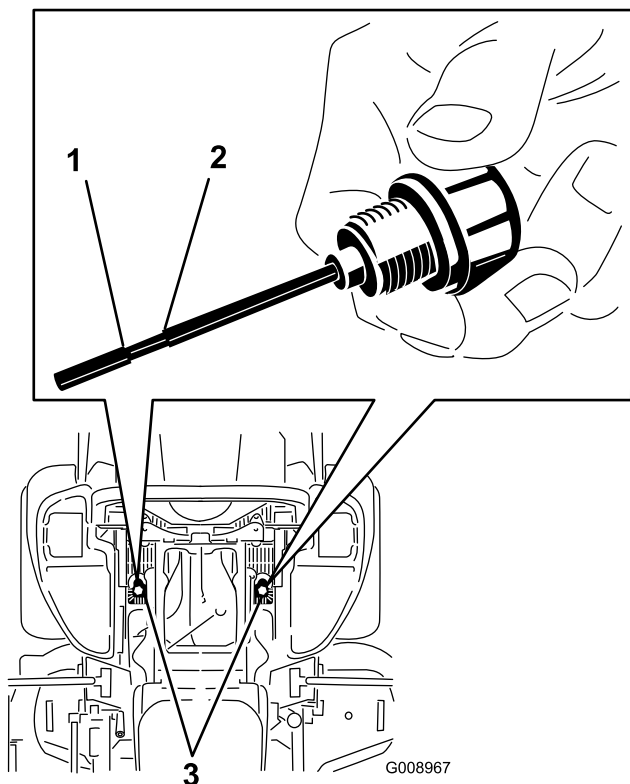

Figure 83
6. Clean the area around the dipsticks of hydraulic system reservoirs (Figure 83).
7. Remove one dipstick from the hydraulic reservoir (Figure 83).
9. Remove the dipstick and look at the metal end (Figure 83). The level needs to be within knurled section. If oil level is low, slowly pour only enough oil into the hydraulic reservoir to raise the level to the knurled section.